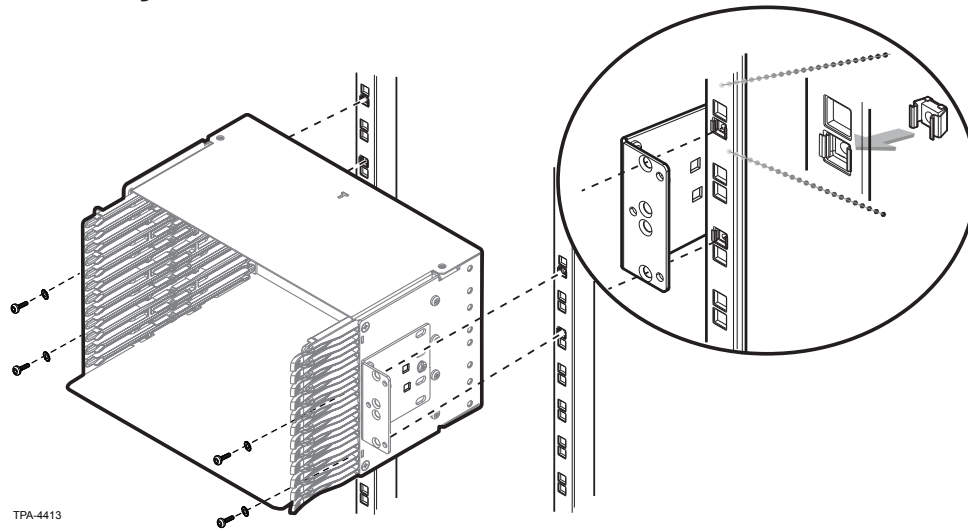

Figure 6
- Step 1:** Position the housing for installation into the front cable access frame (Figure 6) as described in SRP 003-948. Secure the housing to the frame using the screws and cage nuts provided.